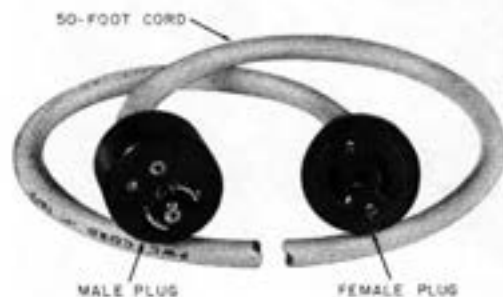

Fig. 5—B Weatherproof Cord
2.06 The B weatherproof cord (Fig. 5) is used to provide a telephone connection between the post-mounted jack at the service pad and the jack on the recreational vehicle in a trailer park or between the dock and boat in a marina. It consists of a 50-foot, 16-gauge, 3-wire (ring, tip, and ground) yellow PVC insulated flexible cord with PHONE stamped on the cord at 1-foot intervals for identification. The cord is